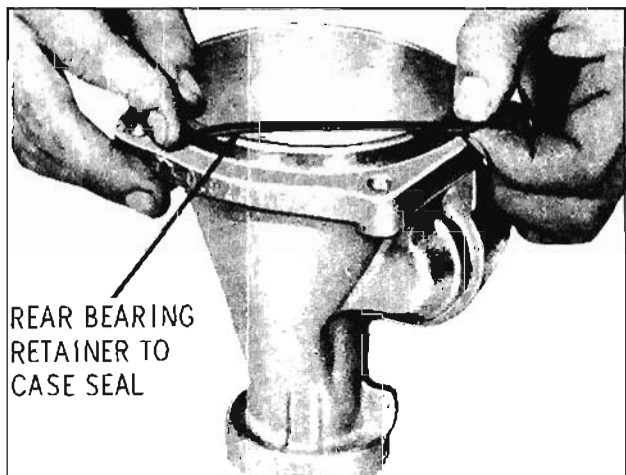

Fig. 6-453 Installing Rear Bearing Retainer to Case Oil Seal
1. Install rear bearing retainer to case oil seal. (Fig. 6-453)